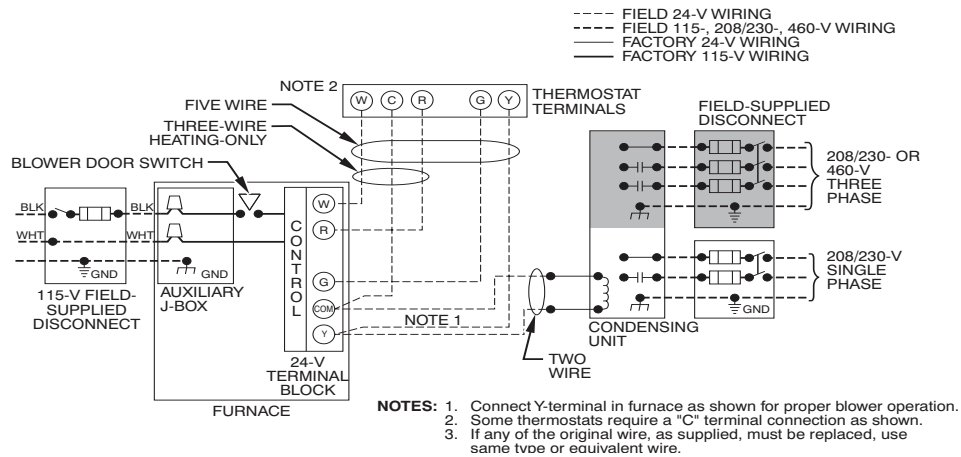

Fig. 40 – Typical Single-Stage Wiring Diagram
- Connect power cord power and neutral leads to furnace power leads (see Fig. 40).
- Connect field power and neutral leads to furnace power leads (see Fig. 40).